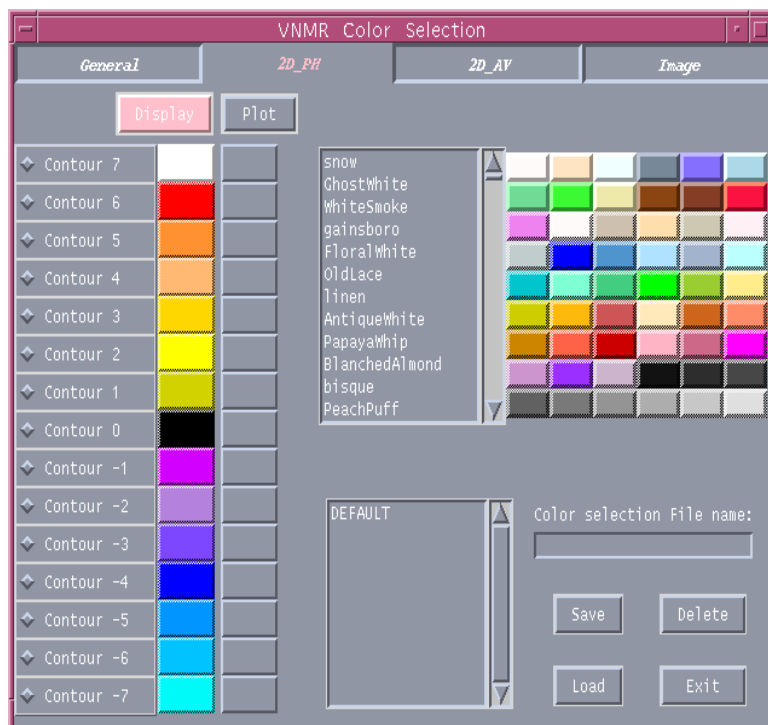

Figure 66. 2D Phase Color Selection Window (color Program)
- The buttons for the 2D Phase window for the display, shown in Figure 66, allow you to set colors for the contours of the display.